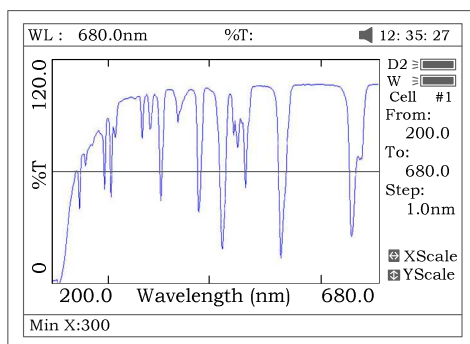
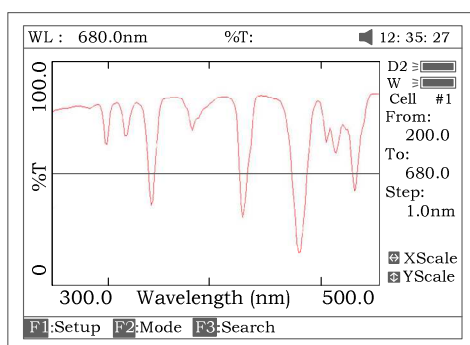

Fig47
Fig 48
5. If you want to change the scale, press **<** or **>** to change “x” scale (Fig 47), input upper limit and lower limit by pressing the numeric keypad . To change “y” scale press **^** or **v** . After these inputs the instrument will redraw the curve (Fig 48).
Press **[SAVE]** to save the curve. Note: Load/Save requires the first scan display page (Fig. 48). Press **ESC** if in Search to return to the required page